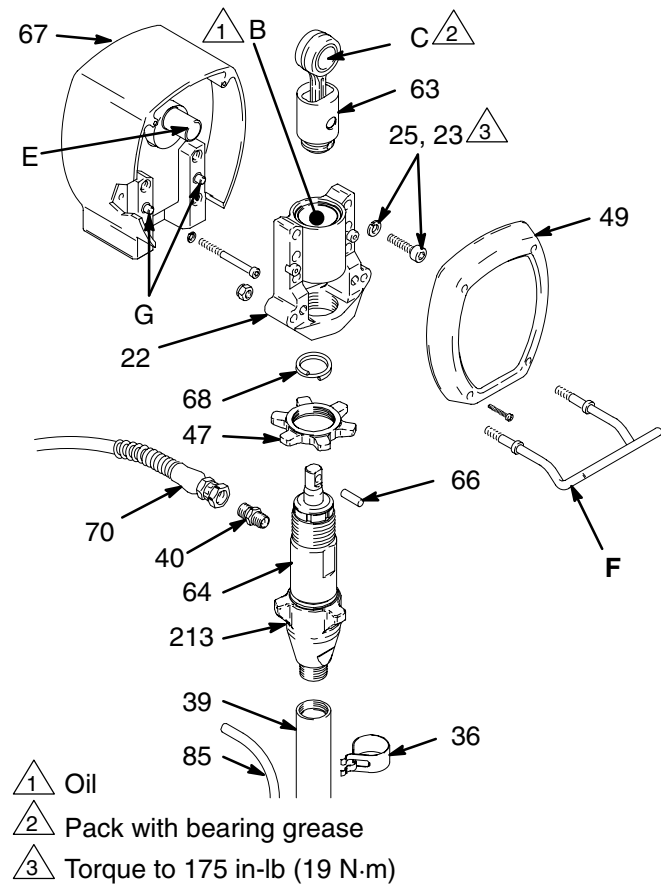

Fig. 8
3. Stop sprayer at bottom of stroke to get crank (E) in lowest position. To lower crank manually, carefully rotate blades of fan with a screwdriver.
4. Fig. 8. Remove front cover (49). Unclip drain hose (36) from pump. Unscrew pump suction tube (39) pump intake valve (213). Disconnect pump hose (70).
5. Push up retaining spring (68). Push pin (66) out rear.
6. Loosen locknut (47). Unscrew displacement pump (64).
8. Tap lower rear of bearing housing (22) with a plastic mallet to loosen from drive housing (67). Pull bearing housing and connecting rod assembly (63) straight off drive housing.
9. Remove pail bracket assembly (F) and install it on new bearing housing.
10. Inspect crank (E) for excessive wear and replace parts as needed. Evenly lubricate inside of bronze bearing (B) with high quality motor oil. Pack roller bearing (C) with bearing grease.
11. Assemble connecting rod (63) and bearing housing (22).
13. Align connecting rod (63) with crank (E) and drive housing locating pins (G) with bearing housing (22) holes. Push bearing housing onto drive housing or tap into place with plastic mallet.
16. Fig. 8. Install remaining parts.